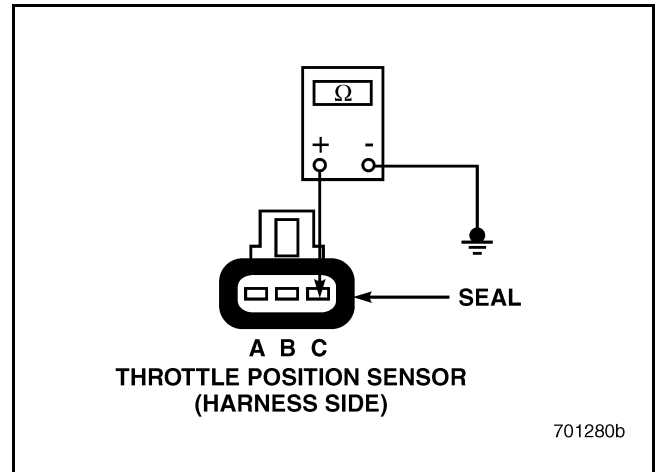

Figure 555
2. Disconnect the Throttle Position (TP) Sensor.
3. Check for continuity between pin C on the harness side of the TP Sensor connector and a good ground (see Figure 555).